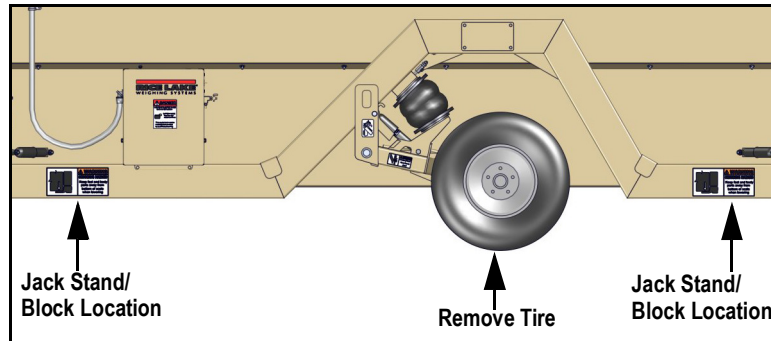

Figure 2-1. Jack Stand or Block Locations
3. Remove the wheel (Figure 2-1) from the wheel swing arm. Retain for re-installation.